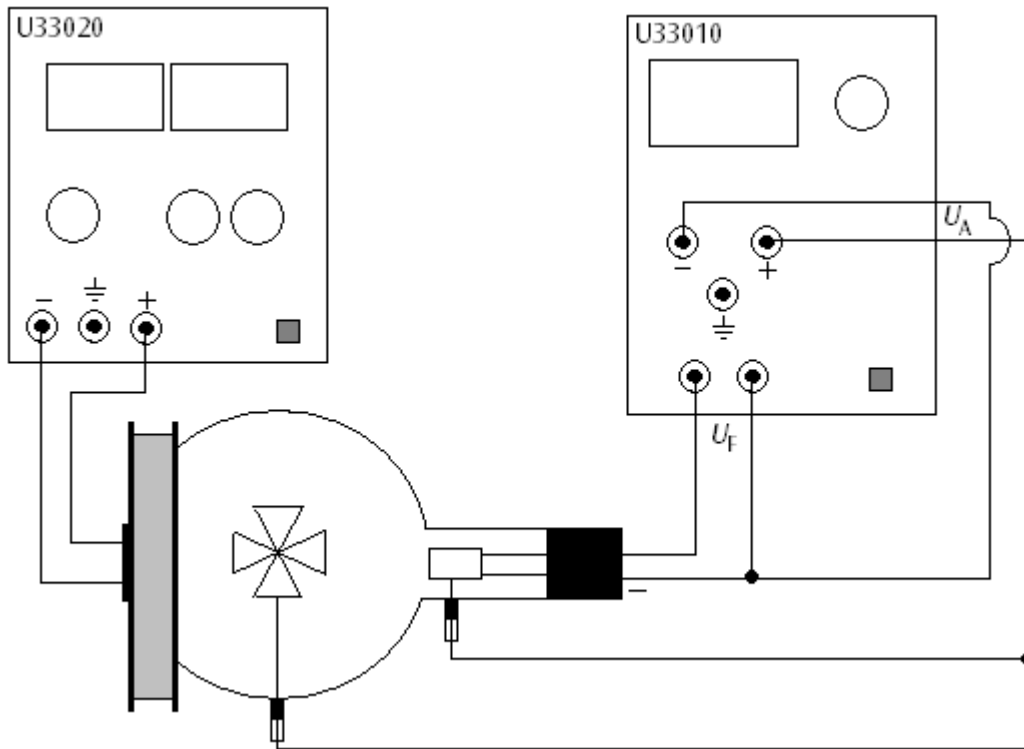

Fig.3 Introduction to electron optics
- Set up the experiment as in Fig. 3. Connect the minus-pole of the anode voltage to the 4-mm socket marked with a minus.